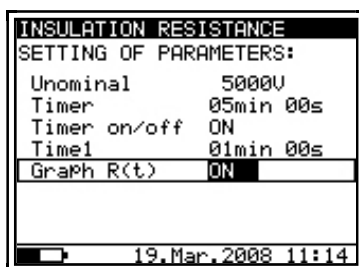

Fig. 14. Set-up menu in Insulation Resistance measurement
- Press the SELECT key, Set-up menu appears on display, see the Fig. 14.